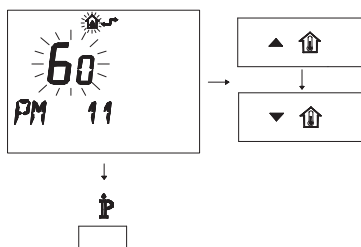

Fig. 8.21
- To modify the programmed SET, act on buttons ▲⏮ or ▼⏮ and wait for the programmed number to flash (Fig. 8.21). Each step increased or decreased corresponds to 1 second.